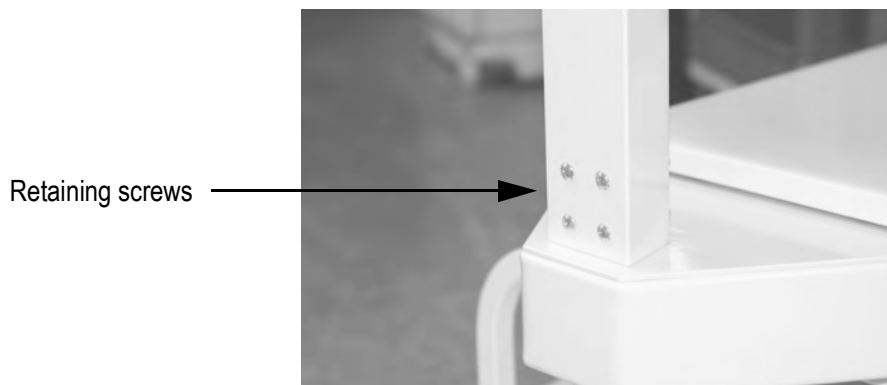

Figure 2-8. Pillar/Beam Assembly on Scale Base
4. Set the pillar/beam assembly on the scale base assembly (See Figure 2-8).